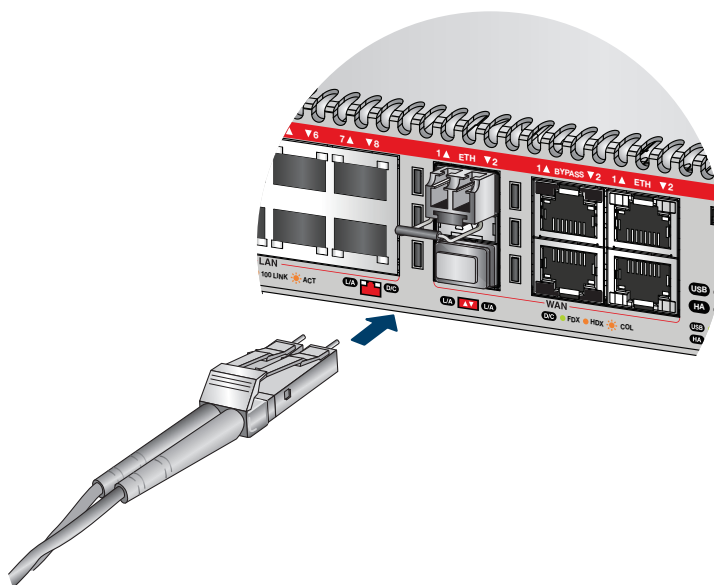

Figure 22. Connecting a fiber optic cable to an SFP transceiver
7. Connect the fiber optic cable to the transceiver, as shown in Figure 22. The connector on the cable should fit snugly into the port, and the tab should lock the connector into place.